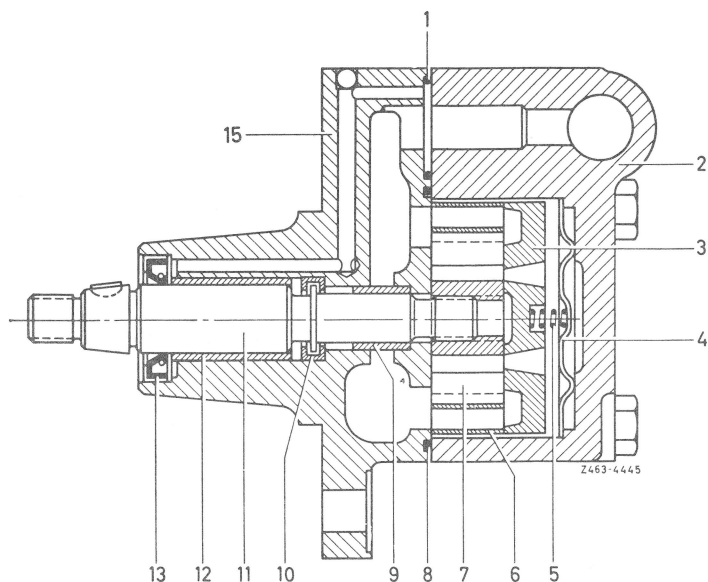

Fig. 1
1 Check parting surface of housing cover (15) and ground lateral surfaces of rotor (7) of power steering pump VT 27. If the parting surface of the housing cover is scored, completely renew power steering pump (Fig. 1).
3 Check vanes in grooves of rotor (7), they should always slide smoothly in rotor. Check sliding surface of vanes on cam ring (6) for wear. If required, recondition power steering pump by means of repair kit „pump insert“ (Fig. 1).
4 Check ground surface of pressure plate (3) or on power steering pump VT 49 also the wear plate (14). When the pressure or wear plate is worn, recondition power steering pump by means of repair kit „pump insert“ (Fig. 1 and 2).